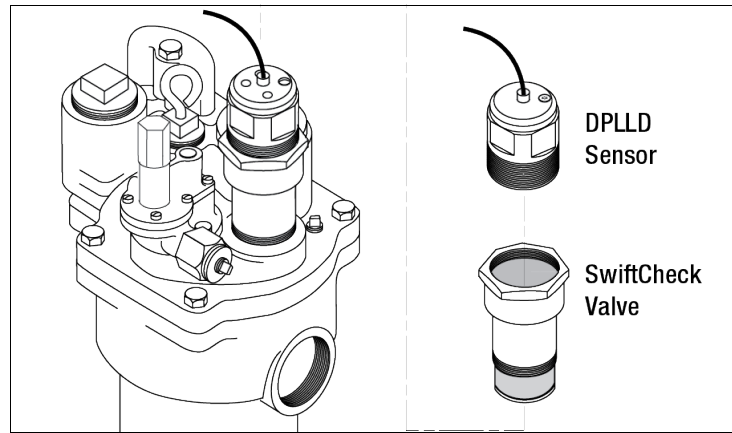
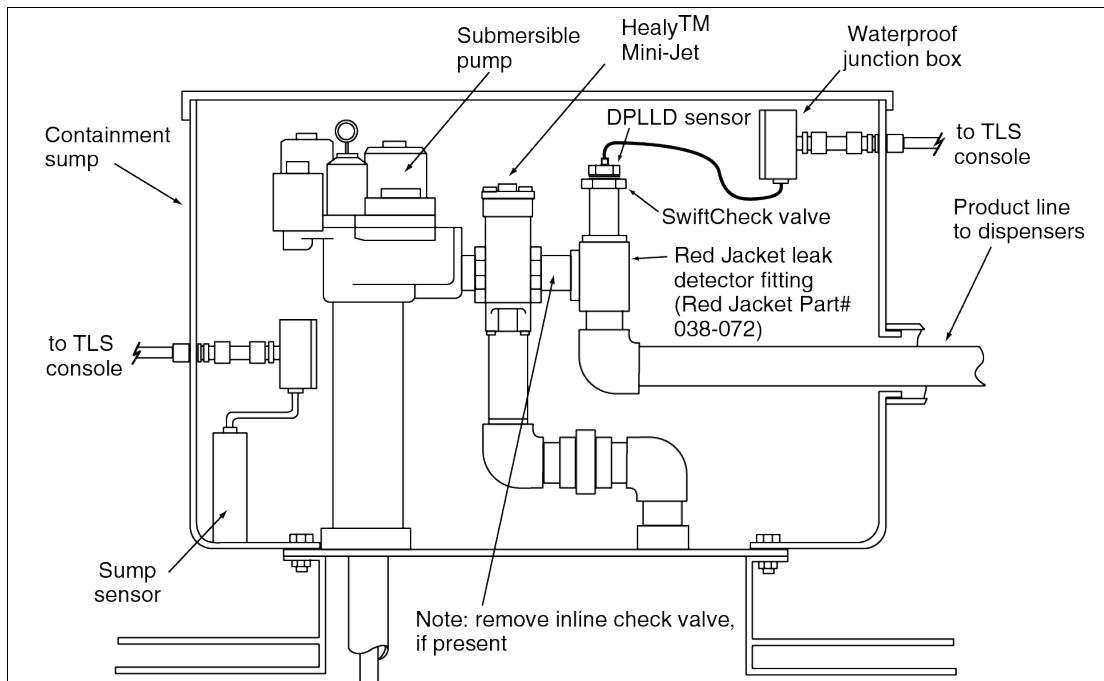

Figure 4. DPLLD Transducer Installation
Figure 5. DPLLD Install W/Healy Mini-Jet System (Required Dielectric Union And Shutoff Valve Not Shown)
8. If there is a Stage II vapor recovery device installed, go to Step 7. If there is no Stage II vapor recovery, install the SwiftCheck valve [Figure 4] in the mechanical LLD pump port. Thread the DPLLD transducer into the SwiftCheck Valve.
9. If there is a Stage II vapor recovery device installed in the pressurized piping you must install the SwiftCheck valve into a Red Jacket leak detector fitting (P/N 038-072) as shown in Figure 5 instead of in the pump’s leak detector port. Because the DPLLD transducer must be installed downstream from these devices, a monitored containment sump is required.
10. Thread the DPLLD transducer into the SwiftCheck valve (ref. Figure 4 or Figure 5 as appropriate).
- If the pump does have a Stage II vapor recovery device installed in the pressurized piping, lubricate the external o-ring on the SwiftCheck valve using mineral oil or other suitable lubricant and thread the valve into the Red Jacket leak detector fitting (P/N 038-072) as shown in Figure 5 on page 10 instead of in the pump's leak detector port. Next thread the DPLLD transducer into the 038-072 fitting.
3. If the pump does have a Stage II vapor recovery device installed in the pressurized piping, lubricate the external o-ring on the SwiftCheck valve using mineral oil or other suitable lubricant and thread the valve into the Red Jacket leak detector fitting (P/N 038-072) as shown in Figure 5 on page 10 instead of in the pump's leak detector port. Next thread the DPLLD transducer into the SwiftCheck valve.